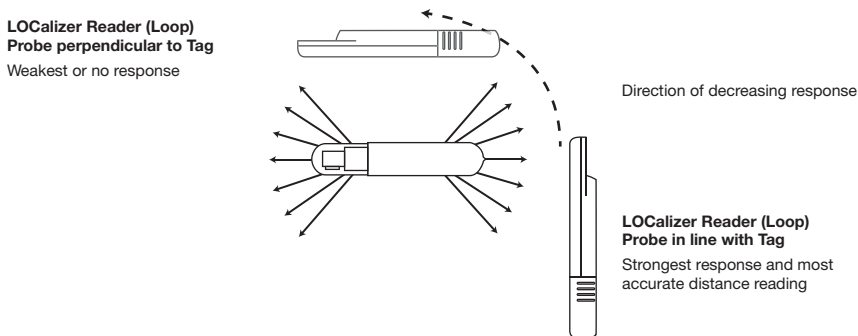

FIGURE 3. Assessing Tag location/position with Loop Probe using signal strength (not to scale)
* As measured from center of the Loop probe to end of Tag (*Figure 3*)
NOTE: The sound and distance display rise to a maximum when the Tag is in line with and directly under the sensing head surface (Figure 3). Identification of the Tag location can be refined by moving the Probe until both ends of the Tag are detected.